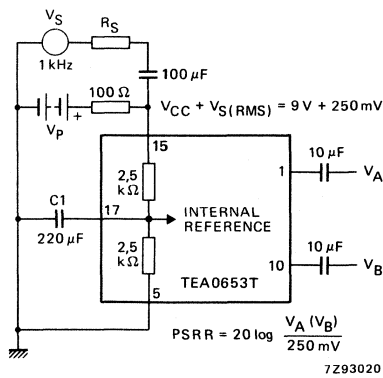

Fig. 3 Test circuit for PSSR for TEA0653T.
1. Voltage gain is $20 \log \frac{\text{voltage at pin 1 (10)}}{\text{voltage at pin 2 (9)}}$
3. Test circuit Fig. 3, reference level at channel A and channel B test point.